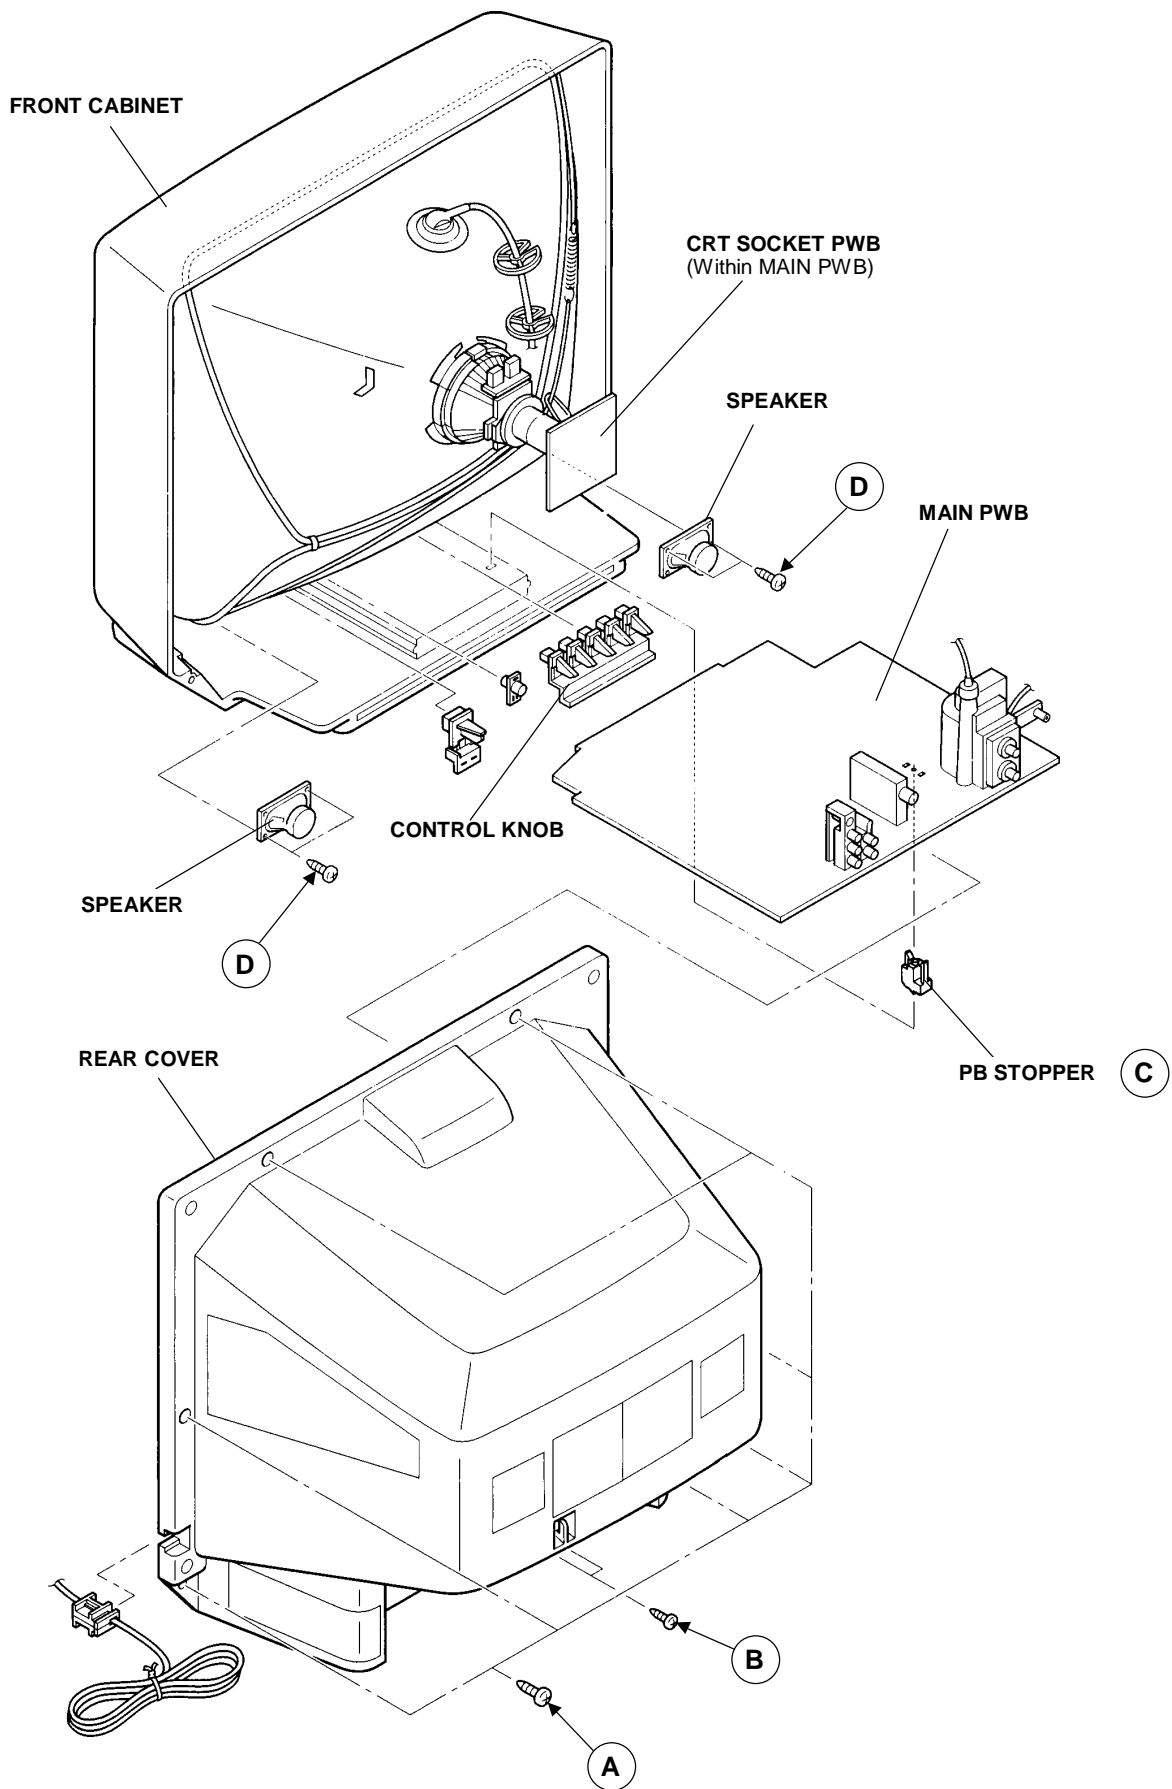

Fig.1
2. Remove the 7 screws marked **(A)** and 2 screws marked **(B)** as shown in Fig.1.
1. Remove the 2 screws marked **(D)** as shown in Fig.1.
| <p>(4) System constant check and setting 1) Press SLEEP TIMER key and, while the indication of "SLEEP TIMER 0 MIN." is being displayed, press DISPLAY key and VIDEO STATUS key on the remote control unit simultaneously. 2) The SERVICE MENU screen of Fig.1 is displayed. 3) While the SERVICE MENU is displayed, again simultaneously press the DISPLAY and VIDEO STATUS keys to display the Fig.2 SYSTEM CONSTANT screen. 4) Refer to the SYSTEM CONSTANT table and check the setting items. Where these differ, select the setting item with the MENU UP/DOWN key and adjust the setting with the MENU LEFT/RIGHT keys. (The letters of the selected item are displayed in yellow.) 5) After adjusting, release the MENU LEFT/RIGHT key to store the setting value. 6) Press the EXIT key twice to return the normal screen.</p> |  <p style="text-align: center;">Fig.1</p> |
| <p>(7) SERVICE MENU setting Verify what to set in the SERVICE MENU, and set whatever is necessary.(Fig.1) Refer to the SERVICE ADJUSTMENT for setting.</p> | |